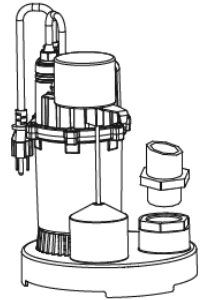

Fig. 1
1. Normal discharge for this pump is 1-1/2 in. However, if existing 1-1/4 in. discharge pipe is already in place, wrap the threads of the included 1-1/4 in. adapter with thread tape (not included) and thread it into the pump discharge (Fig. 1).